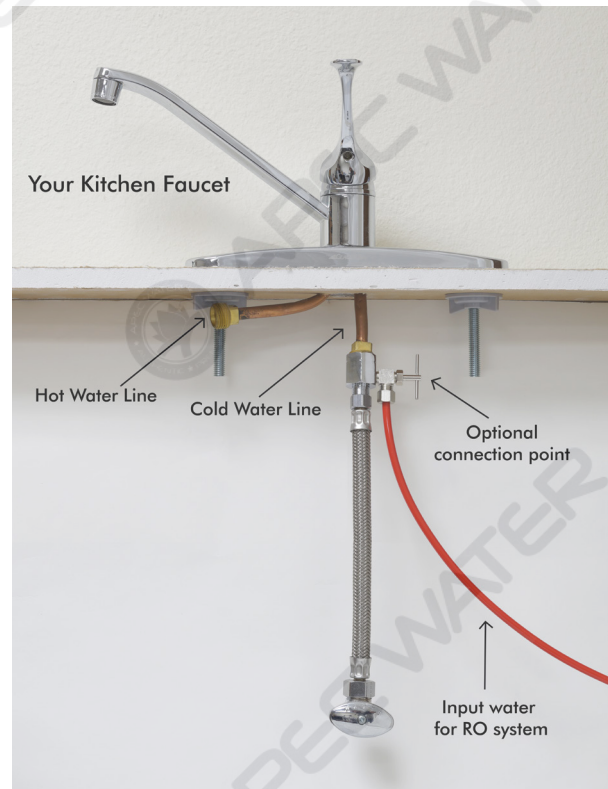

Fig. 5F
**Option Connection Point:** See **Fig. 5F.** The feed water adapter can also be installed between the riser tube and faucet shank. Loosen nut and separate cold water riser tube from faucet shank. Gently bend riser tube so that the Feed Water Adapter fits onto the faucet shank. If your riser tube has no built-in washer, then fit the cone-shaped washer provided onto the riser tube. Connect the riser tube, feed water adapter, and faucet shank together and **tighten.**